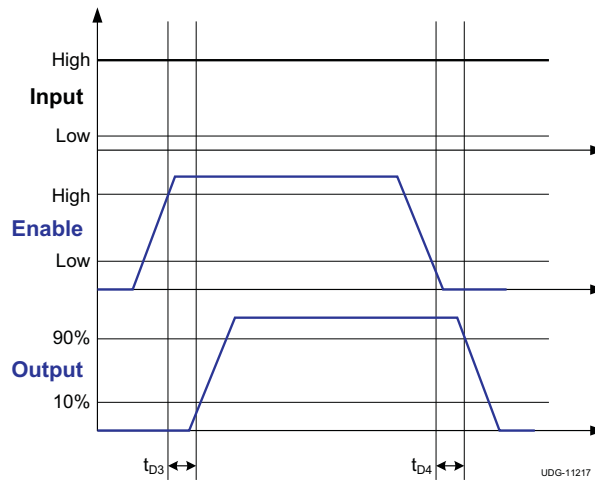

图 1. Enable Function
(1) See the timing diagrams in 图 1 and 图 2